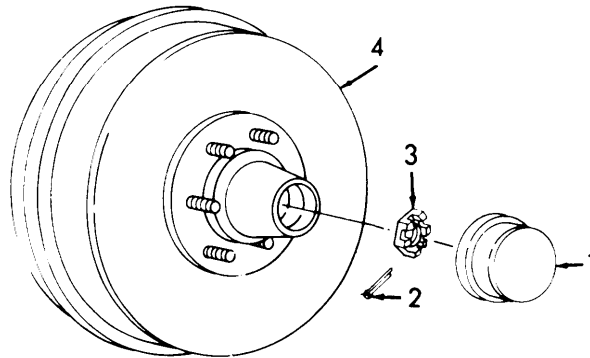

Figure 3-38. Rear Wheel Bearing Adjustment.
- (1) Remove grease cap (1, Figure 3-38).
- (2) Remove cotter pin (2).
- (3) Loosen nut (3) several turns.
- (4) Slowly tighten nut (3) while turning drum (4).
- (5) Stop tightening nut (3) when drum (4) no longer turns freely.
- (6) Loosen nut (3) 1/4 turn.
- (7) Install cotter pin (2) and grease cap (1).